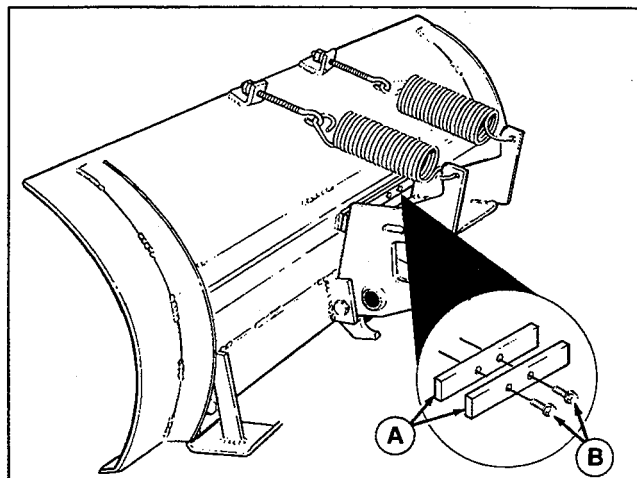

Figure 4. Bar Stop
2. **Regent/2500/500 & Broadmoor/LT/2600/1600 Series:** See Figure 4. Install one bar stop (A) using the two 5/16-18 x 1 taptite screws (B). Do not install second bar stop.